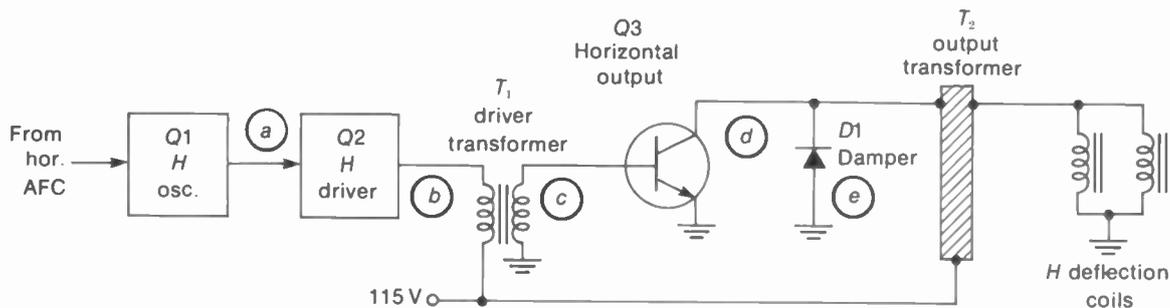
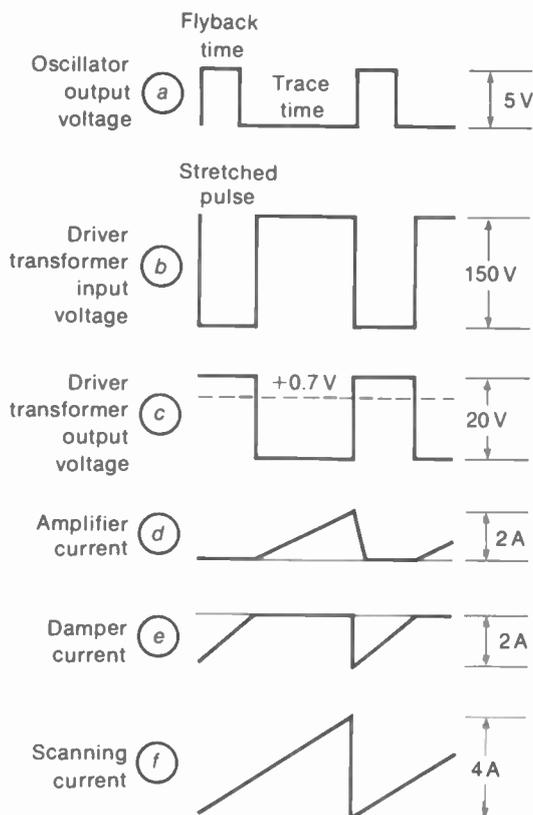

FIGURE 22-26 BLOCK DIAGRAM OF HORIZONTAL DEFLECTION CIRCUIT WITH TRANSISTORS. LETTERS IN BALLOONS ARE FOR WAVESHAPES IN FIG. 22-27.
FIGURE 22-27 WAVESHAPES FOR HORIZONTAL DEFLECTION CIRCUIT IN FIG. 22-26.
**Typical horizontal circuit with transistors.** The block diagram in Fig. 22-26 illustrates the oscillator, driver, and output stages. The driver  $Q2$  has several functions. It is a buffer or isolation stage to prevent the output circuit from changing the oscillator frequency. With the interstage transformer  $T_1$ , the voltage drive is stepped down to match the low impedance of the power amplifier  $Q3$ . In addition, the  $Q2$  circuit can be used to shape the driving voltage for the output stage. It is often necessary to stretch the cutoff time of  $Q3$  for maximum efficiency. In the output circuit, note that the deflection coils are in parallel, for a lower impedance than with series connections.
**Transistor waveshapes for horizontal deflection.** The waveforms in Fig. 22-27 match the numbered balloons in Fig. 22-26. The oscillator output voltage is shown in *a*. Note that the oscillator pulse is for flyback time, which eventually cuts off the output stage. This oscillator pulse is amplified and inverted by the driver. The stretching of the flyback pulse is accomplished by  $RC$  networks in the driver circuit and by the interstage transformer  $T_1$ .
**Typical circuit.** Refer to Fig. 22-28. The horizontal oscillator Q8 supplies pulses that are amplified by the driver Q9, transformer-coupled to the amplifier Q302. These stages correspond to Q1, Q2, and Q3 in Fig. 22-26. Note the oscilloscope waveshapes shown at 1 for oscillator output, at 2 for driver output, and at 3 for drive to the base of the output stage.
12. In transistorized circuits, a driver stage is used as a buffer between the horizontal oscillator and amplifier. See Fig. 22-26.
11. For the transistor circuit in Fig. 22-26: (a) Q3 is on for retrace; (b) the scanning coils are in series; (c) Q2 is transformer-coupled to the output stage; (d) the damper D1 is on for retrace.